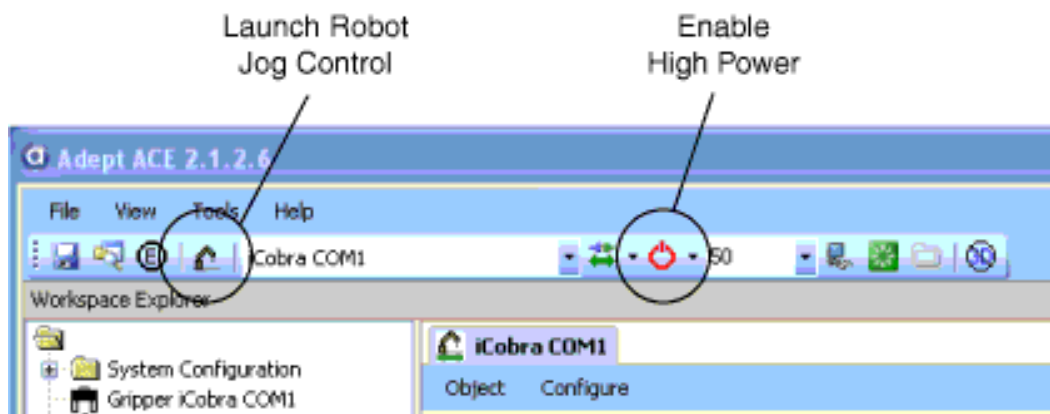

Figure 4-12 High Power and Launch Robot Jog Control Icons
- a. To access the Robot Jog Control, on the Adept ACE toolbar, click the Launch Robot Jog Control icon. See Figure 4-12.